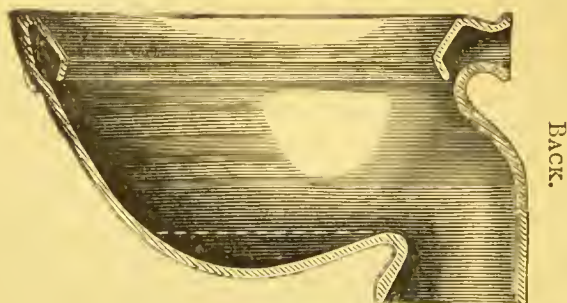

FIG. 27. SECTION.
*Patent "Wash-out" Water-closet Basin* (see Section, Fig. 27).—This water-closet was invented by the writer, but patented by Mr. Rowley, potter (Mr. Woodward's representative), to whom it was entrusted to be made. This water-